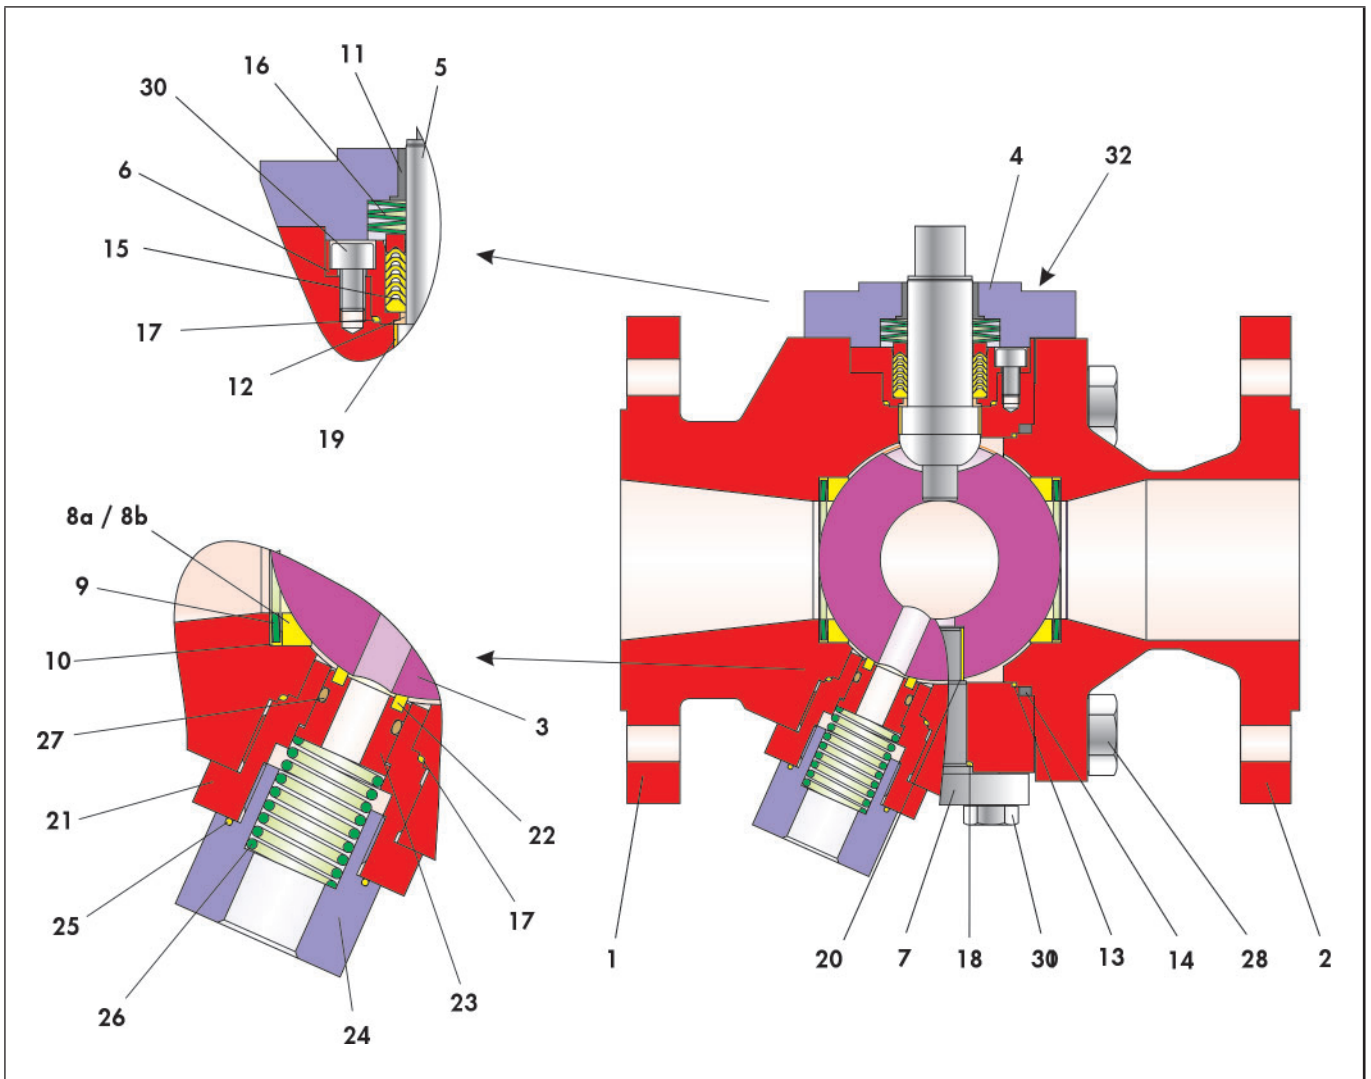

Fig. 3-2: Sectional drawing of the shut-off ball valve up to DN 150 / NPS6
The position and arrangement of the individual parts shown in fig. 3-2 must be observed during assembly.
- ⇒ Insert the O-ring (17) into the corresponding position of the main body (1).
- ⇒ Press the bearing bush (12) into the packing bush (6).
- ⇒ Carefully insert the packing bush (6) with bearing bush (12) over the control shaft (5) into the main body (1) and adjust with the lightly greased screws (30).
- ⇒ Tighten the screws (30) evenly in a criss-cross pattern.
- ⇒ Push the V-ring packing (15) with a slight rotation movement over the assembled control shaft (5) and insert it into the support of the packing bush (6). Arrangement of the V-sleeves, see fig. 3-2.
- ⇒ Place the set of disc spring (16) on the V-ring packing (15). Arrangement of the spring washers, see fig. 3-2.
- ⇒ Press the bearing bush (11) into the stuffing box flange (4).
- ⇒ Place the stuffing box flange (4) over the control shaft (5) onto the main body (1).
- ⇒ Lightly grease the screws (32).
- ⇒ Evenly adjust the stuffing box flange (4) with the screws (32) and tighten in a criss-cross pattern.